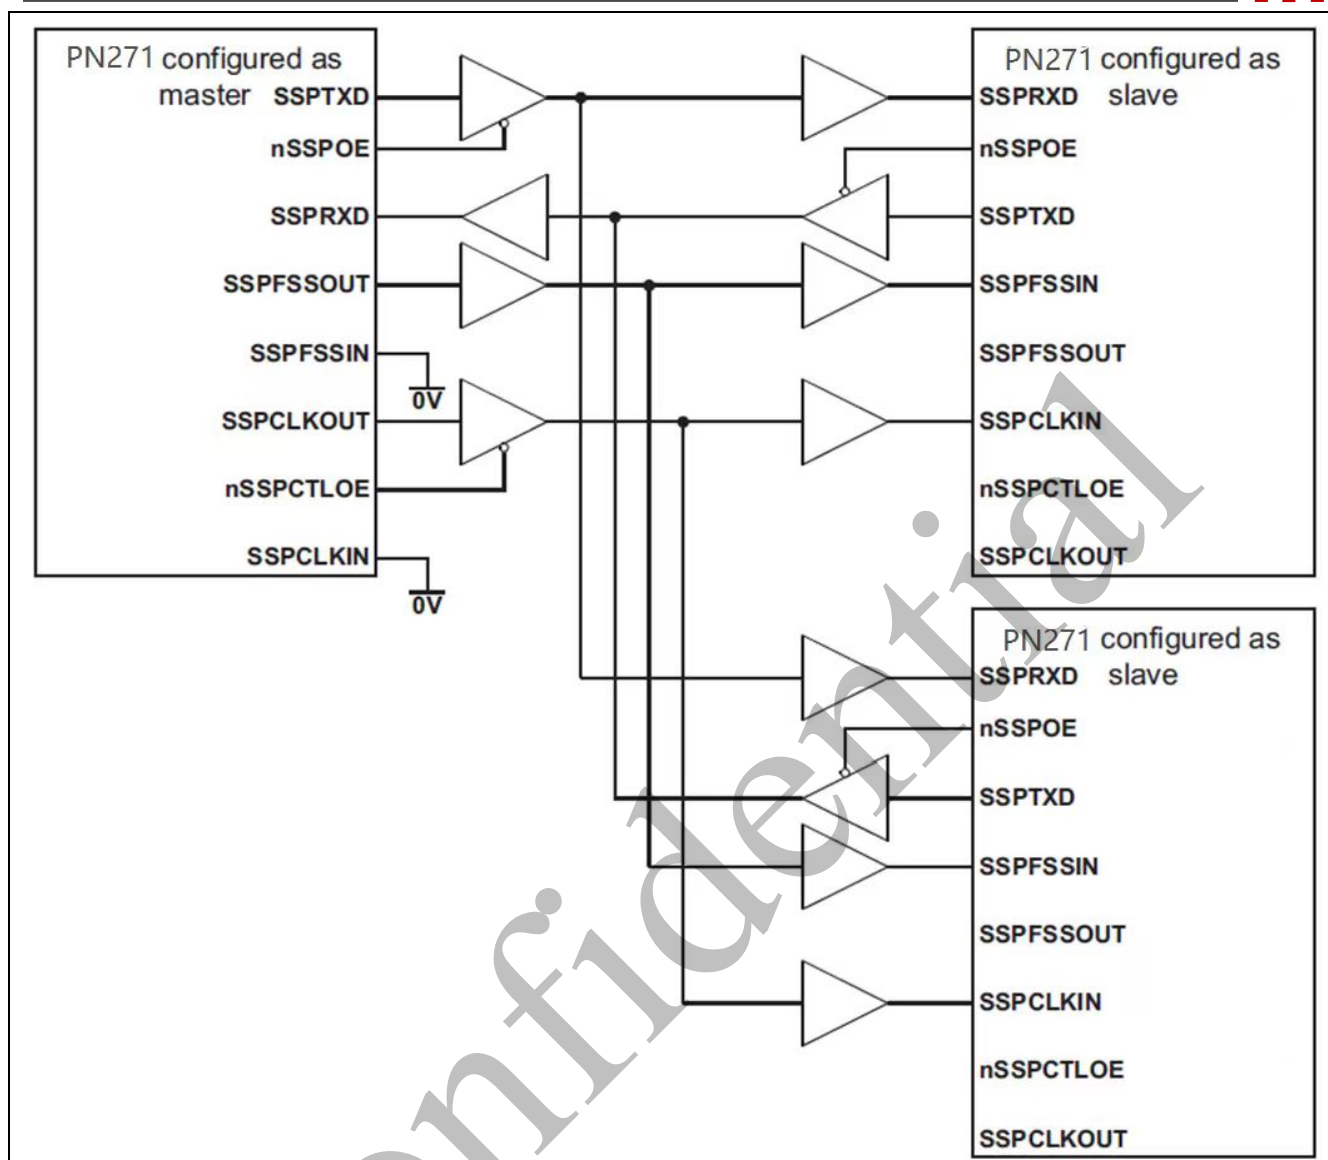
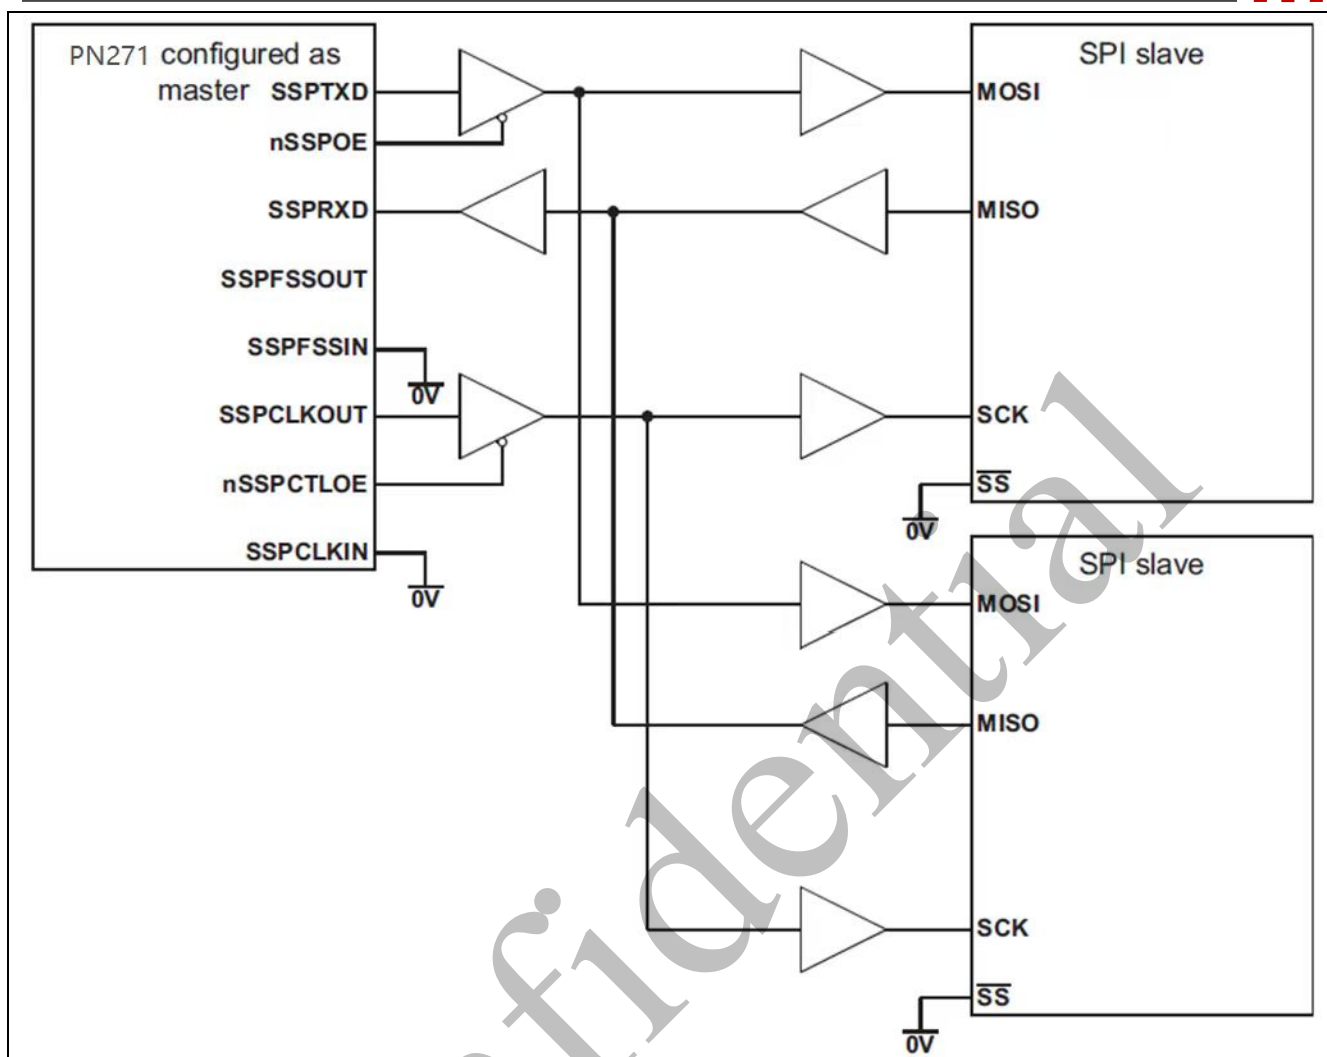

Figure 3-44 SSP master coupled to two slaves
Figure 3-45 SSP master coupled to two other slaves
Figure 3-44, Figure 3-45 and Figure 3-46 show how the SSP peripheral can be connected to other synchronous serial peripherals, when it is configured as a master or slave.
Figure 3-44 shows the SSP instanced three times, as a single master and two slaves. The master can broadcast to the two slaves through the master SSPTXD line. In response, only one slave drives its nSSPOE signal HIGH, thereby enabling its SSPTXD data onto the SSPTXD line of the master.
Figure 3-45 shows how an SSP, configured as master, interfaces to two Motorola SPI slaves. Each SPI Slave Select (SS) signal is permanently tied LOW and configures them as slaves. Similar to the above operation, the master can broadcast to the two slaves through the master SSP SSPTXD line. In response, only one slave drives its SPI MISO port onto the SSPRXD line of the master.